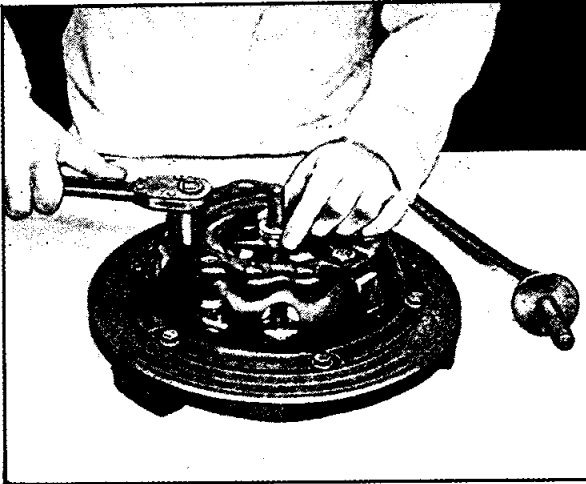

Fig. 13 Adjusting the release levers.
- (m) Screw the adjusting nuts to raise or lower the release levers sufficiently to just contact the finger gauge (Fig. 13).